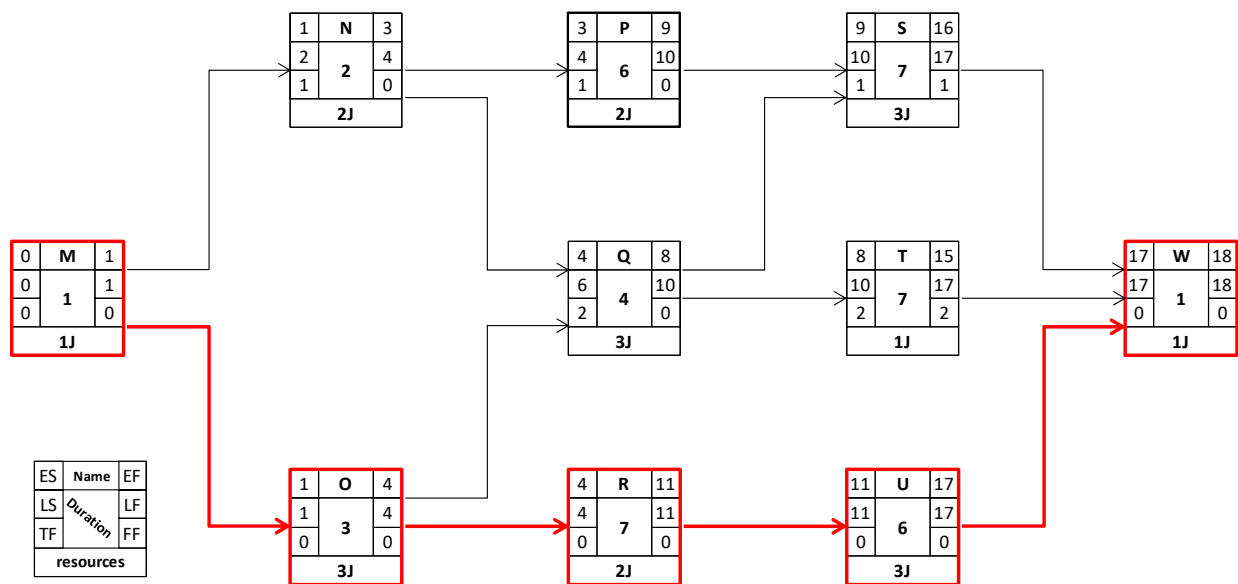

Figure 1 – Resource conflicts
Figure 1, indicates the network, critical path and for each activity, the Early Start (ES), the Early Finish (EF), the Late Start (LS), the Late Finish (LF), the total Float (TF), and the Free Float (FF).
- Surveys show that the soil is sandy clay whose densities (bank state) is as shown in the figure 1 above ;
- The soil is loaded on trucks of 10 m3. Each truck make two (2) cycles per hour [ Loading + unloading + travel time (go + back) ] ;